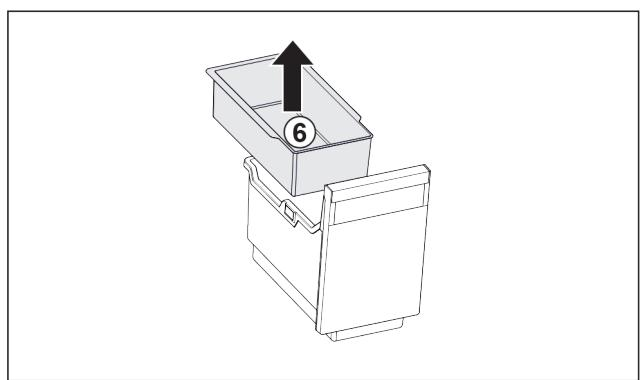

Fig. 101
- ▶ Remove the hang-on tray Fig. 101 (6).